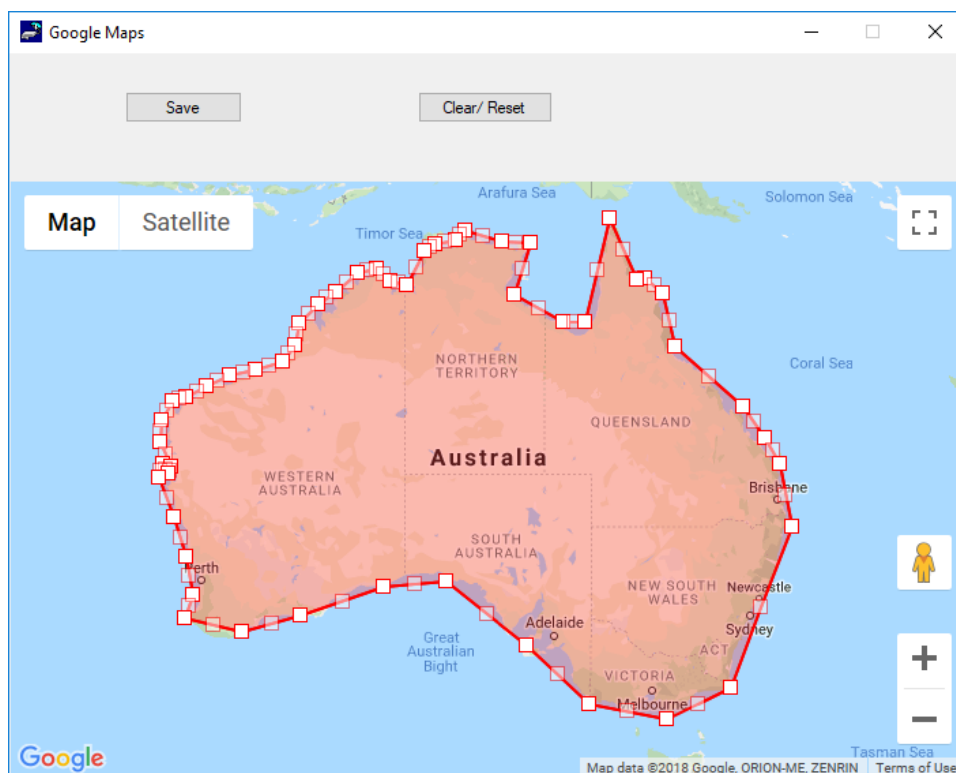

Figure 37: Create/Edit Geofence Window
12. **Create Geofence:** Opens a window to create a geofence by adding points on a map. The window is shown in **Figure 37**.